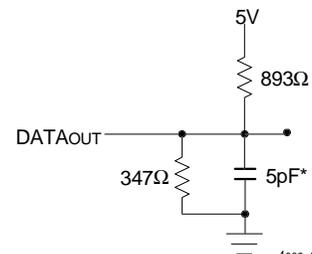

Figure 2. Output Test Load
1. Transition is measured  $\pm 500\text{mV}$  from Low or High-impedance voltage with Output Test Load (Figure 2).
1. Transition is measured  $\pm 500\text{mV}$  from Low or High-impedance voltage with the Output Test Load (Figure 2).
7. This parameter is guaranteed by device characterization, but is not production tested. Transition is measured ±500mV from steady state with Output Test Load (Figure 2).